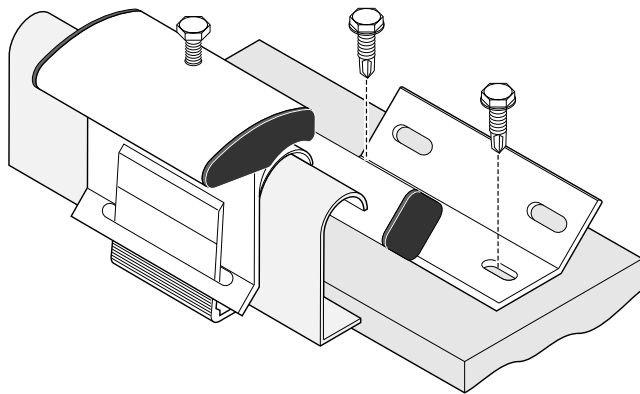

Figure 2
2. Align the magnet with the switch and use screws to attach it to the door as shown in Figure 2. The switch and magnet must be aligned within 1/2 inch of each other to prevent false alarms near intermediate alarm regions.